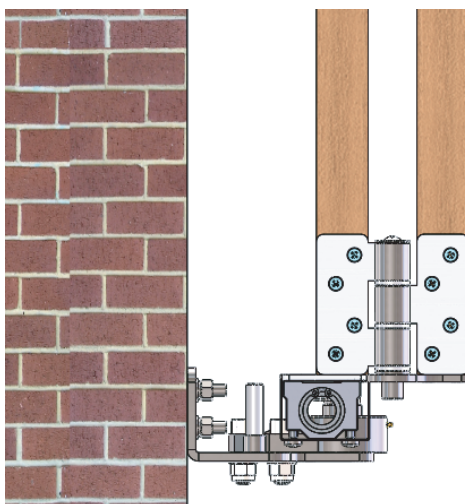

Fig 7
6. Install the 2nd leaf door in correct place and tighten up the hinge screws as Fig 7.